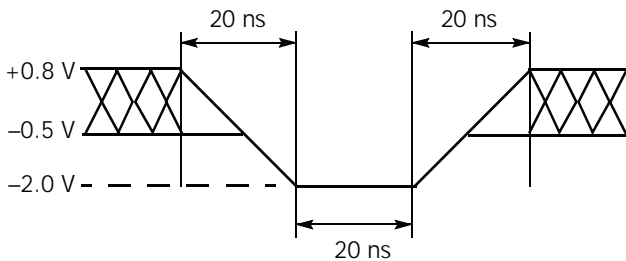
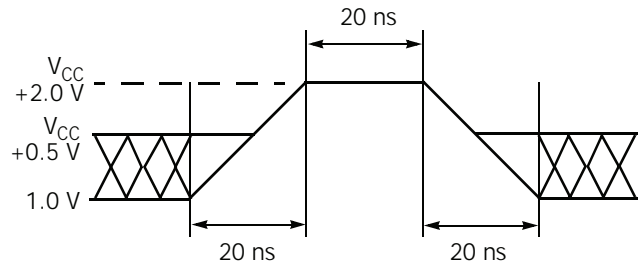

Figure 12.1 Maximum Negative Overshoot Waveform
Figure 12.2 Maximum Positive Overshoot Waveform
1. Minimum DC voltage on input or I/Os is −0.5 V. During voltage transitions, inputs or I/Os may undershoot V_{SS} to −2.0 V for periods of up to 20 ns. See Figure 12.1. Maximum DC voltage on input or I/Os is $V_{CC} + 0.5$ V. During voltage transitions outputs may overshoot to $V_{CC} + 2.0$ V for periods up to 20 ns. See Figure 12.2.
2. Minimum DC input voltage on pin ACC is −0.5V. During voltage transitions, ACC may overshoot V_{SS} to −2.0 V for periods of up to 20 ns. See Figure 12.1. Maximum DC voltage on pin ACC is +9.5 V, which may overshoot to 10.5 V for periods up to 20 ns.